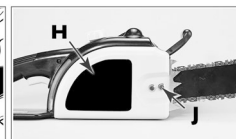

Fig. 3E
3. Install the sprocket cover (H). Place the cover over the 2 bar bolts. Thread the retaining nuts (J) FINGER TIGHT ONLY. (See Fig. 3E)